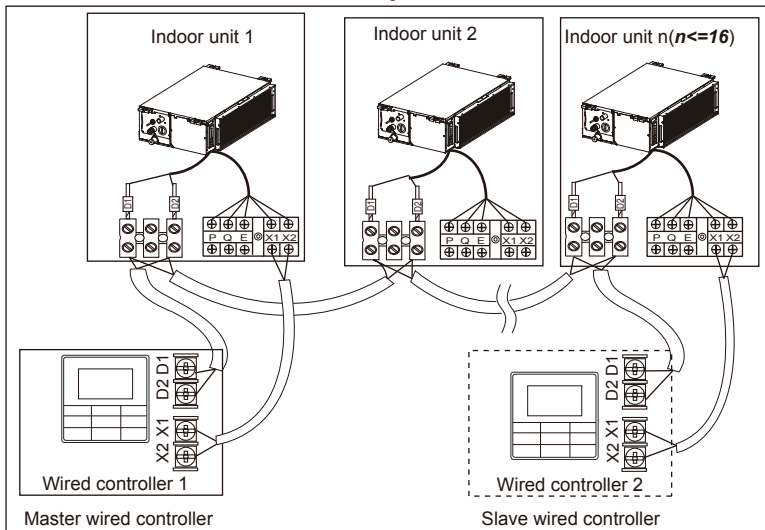

Figure 7.8
- Use 1 wired controller to control multiple indoor units or 2 wired controllers (one master and one slave controller) to control multiple indoor units (see Figure 7.8);